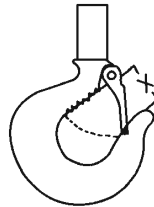

Figure 3 -
- c. Inspect hook once daily for cracking, extreme wear or spreading. Replace hooks showing any of these signs. If the throat openings are spread wider than the maximum permissible 15% increase listed in Fig. 3, the hooks have been overstressed and must be replaced. Any hook that is bent or
twisted more than 10 degrees from the plane of an unbent hook must also be replaced (see Fig. 3).